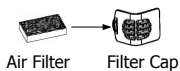

Fig. 11-1
- (1) Attach the air filter to the filter cap, as shown in Fig. 11-1.